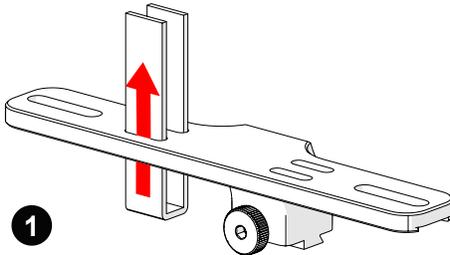

Fig. 45 - Insert velcro straps
1. Slide the velcro strap through the bracket's holes (Fig. 45).